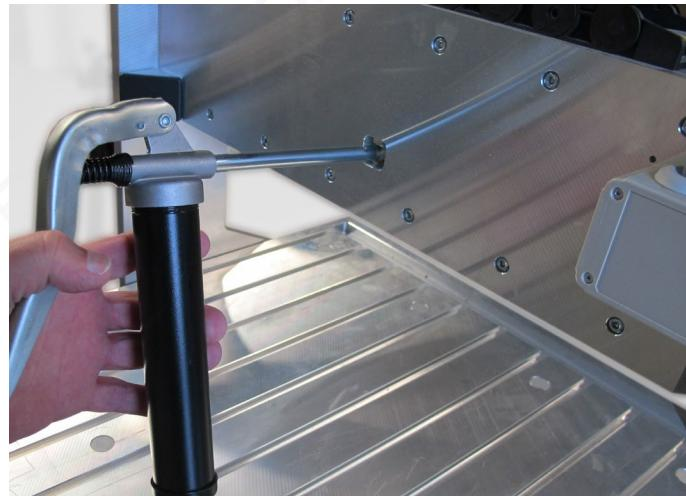

Fig. 47: Lubricating Y-axis spindle nut
- Lubricate the Y-spindle nut as shown in Figure 47.